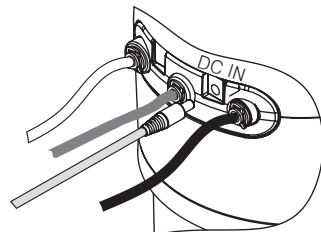

Fig. 12
- Insert the plug of the power supply into the outlet, and the plug from the power supply into the socket in your RO-202S unit (Fig. 12).